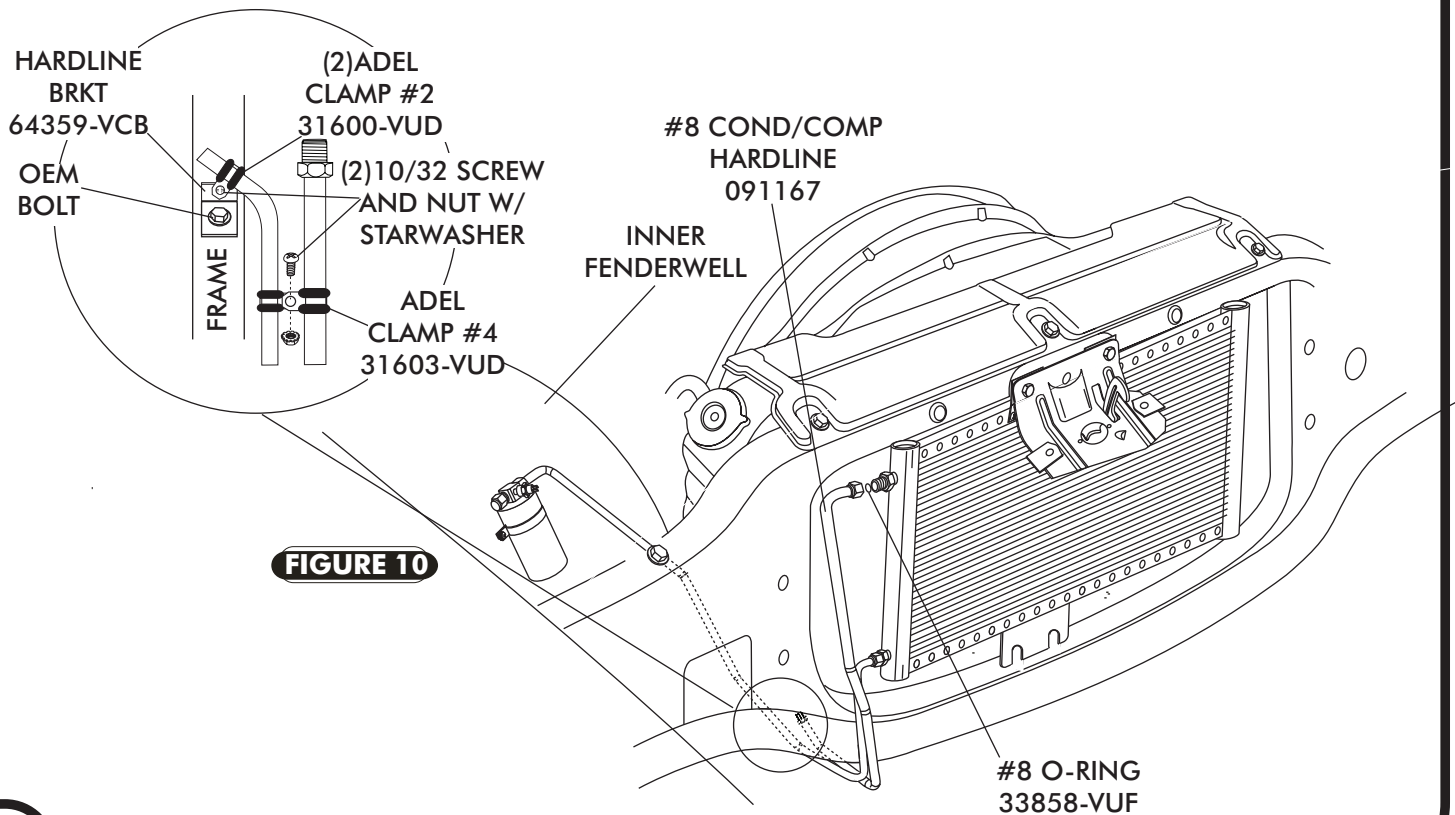

FIGURE 10
- LUBRICATE #8 O-RING (SEE FIGURE 8) AND INSTALL THE #8 COND/CORE HARDLINE AS SHOWN IN FIGURE 10 BELOW. TIGHTEN FITTINGS AS SHOWN IN FIGURE 8, PAGE 8.